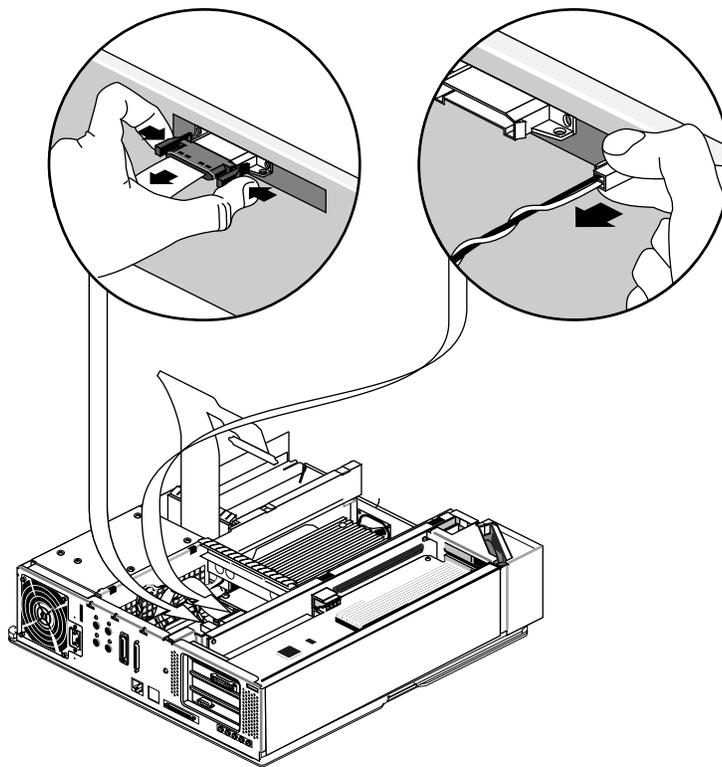

Figure 2-11 Removing the Midplane Power Cables
3. Disconnect the midplane power cables (ribbon cable and twisted-pair cable) from the midplane, as shown in Figure 2-11.
- Pinch together the corrugated edges on the ribbon cable connector, and disconnect it from the midplane. See Figure 2-11.